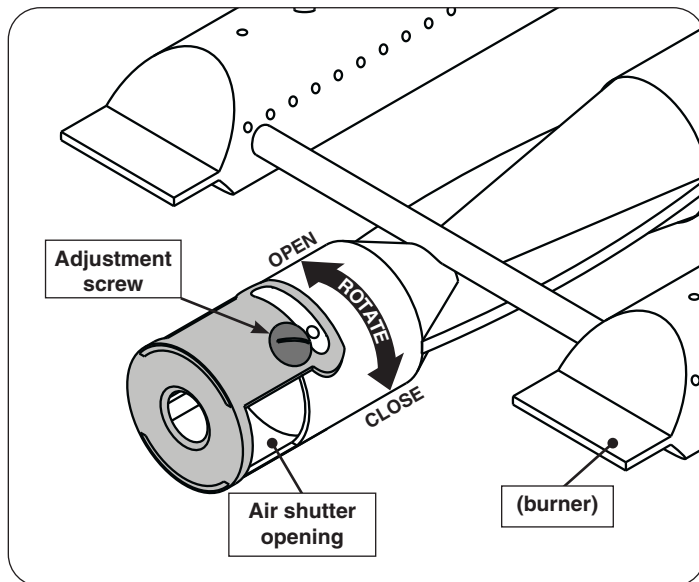

Fig. 40-2 Main burner air shutter adjustment detail
1. To adjust the air shutter, loosen the adjustment screw with a flathead screwdriver. Then rotate the shutter to open or close it. See Fig. 40-2 for details.